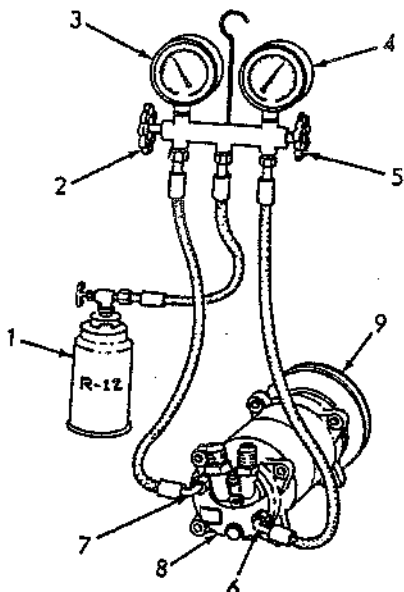

FIG. 39 CHARGING SYSTEM T-0691
Run engine at 1500 RPM for 5 to 10 minutes. Observe gauges, Fig.39. Gauge (3) should read 20 - 40 psi; gauge (4) should read 125 - 225 psi. If pressures remain constant, system is normal. If pressures gradually drop, then the system should be checked for leaks. Refer to 8.6.